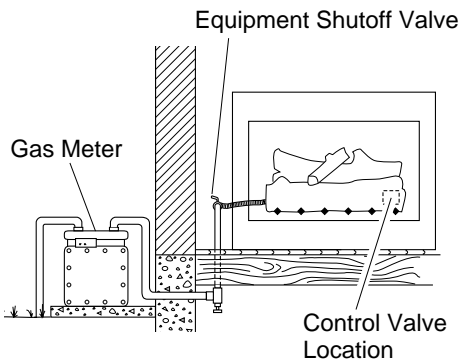

Figure 16 - Checking Gas Joints for Natural Gas
4. Check all joints from equipment shutoff valve to control valve (see Figure 16 or 17). Apply a noncorrosive leak detection fluid to gas joints. Bubbles forming show a leak.